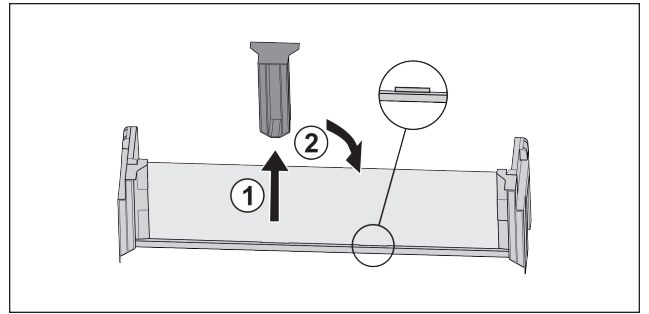

Fig. 110
- ▶ Pull off the middle holder Fig. 110 (1).
- ▶ Insert the middle holder in the second position Fig. 110 (2).